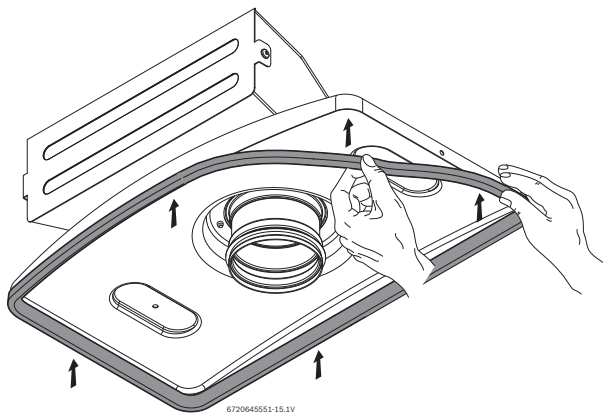

Fig. 6
- ▶ **3.** Attach the gasket provided with the kit as shown in Fig. 6.